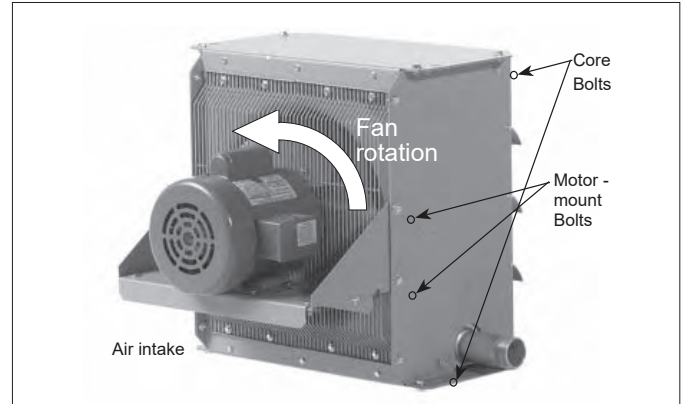

Figure 8
6. Ensure air exits through louvers and fan rotates counterclockwise when viewed from rear of heater (see Figure 8).
9. Air must exit through louvers and fan must rotate counterclockwise when viewing from the rear of the heater (see Figure 8).
4. Support the weight of the heat exchanger by the piping connection while removing the four core bolts that fasten the heat exchanger to the cabinet. (See Figure 8). Allow heat exchanger to rest on the bottom of the cabinet.